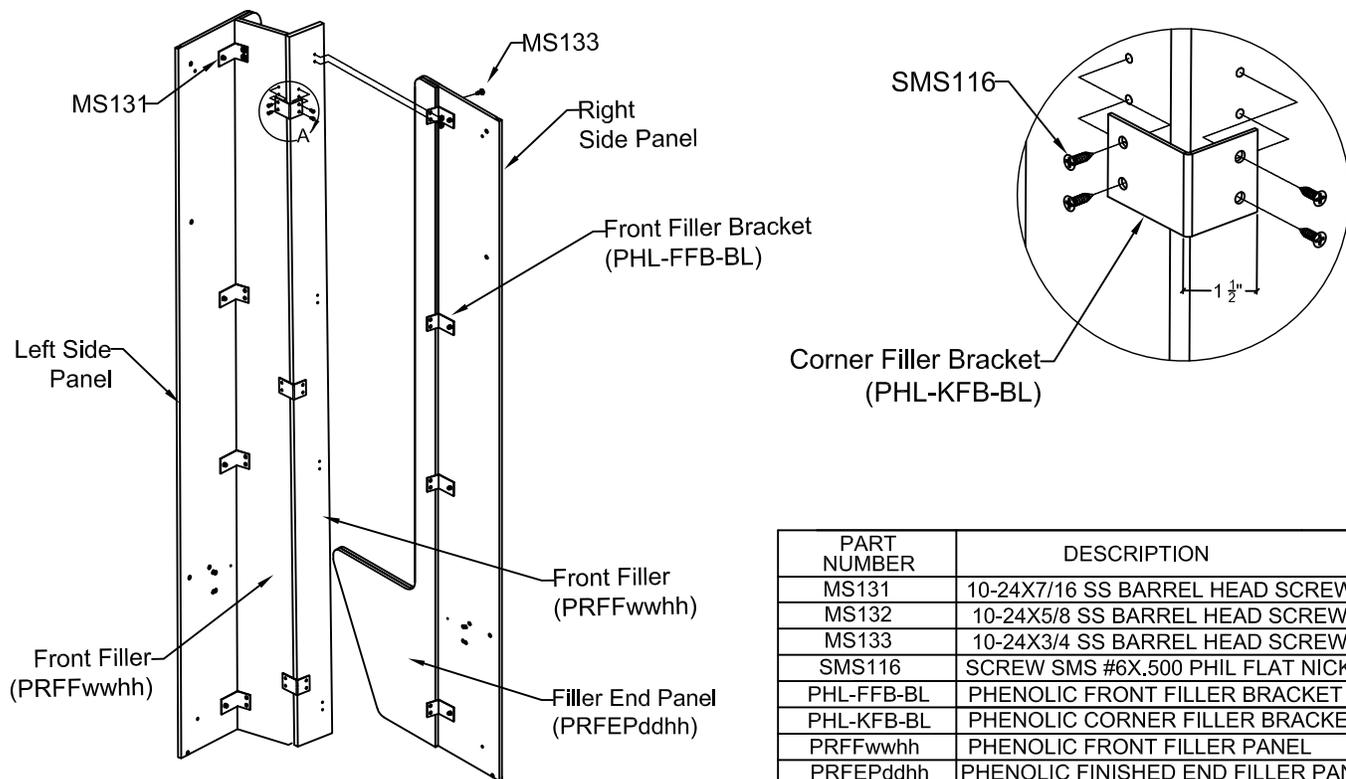

Figure 4.1:
- 6.3 Install the front filler brackets on the front filler panel using the corresponding hardware provided. see Figures 4.1 and 4.2.